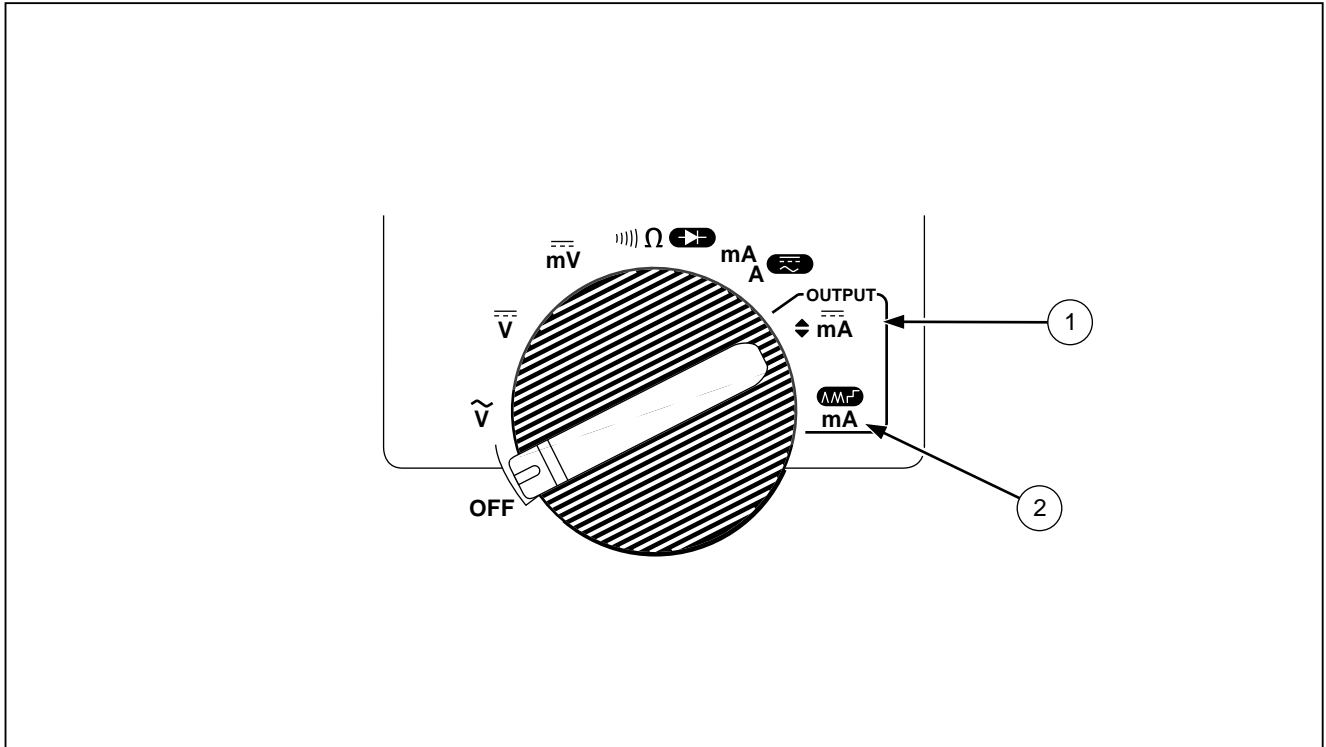

**Figure 2. Rotary Switch Positions for Measurements**
- Figure 2 and Table 3 describe the input functions you get with the first five rotary switch positions.